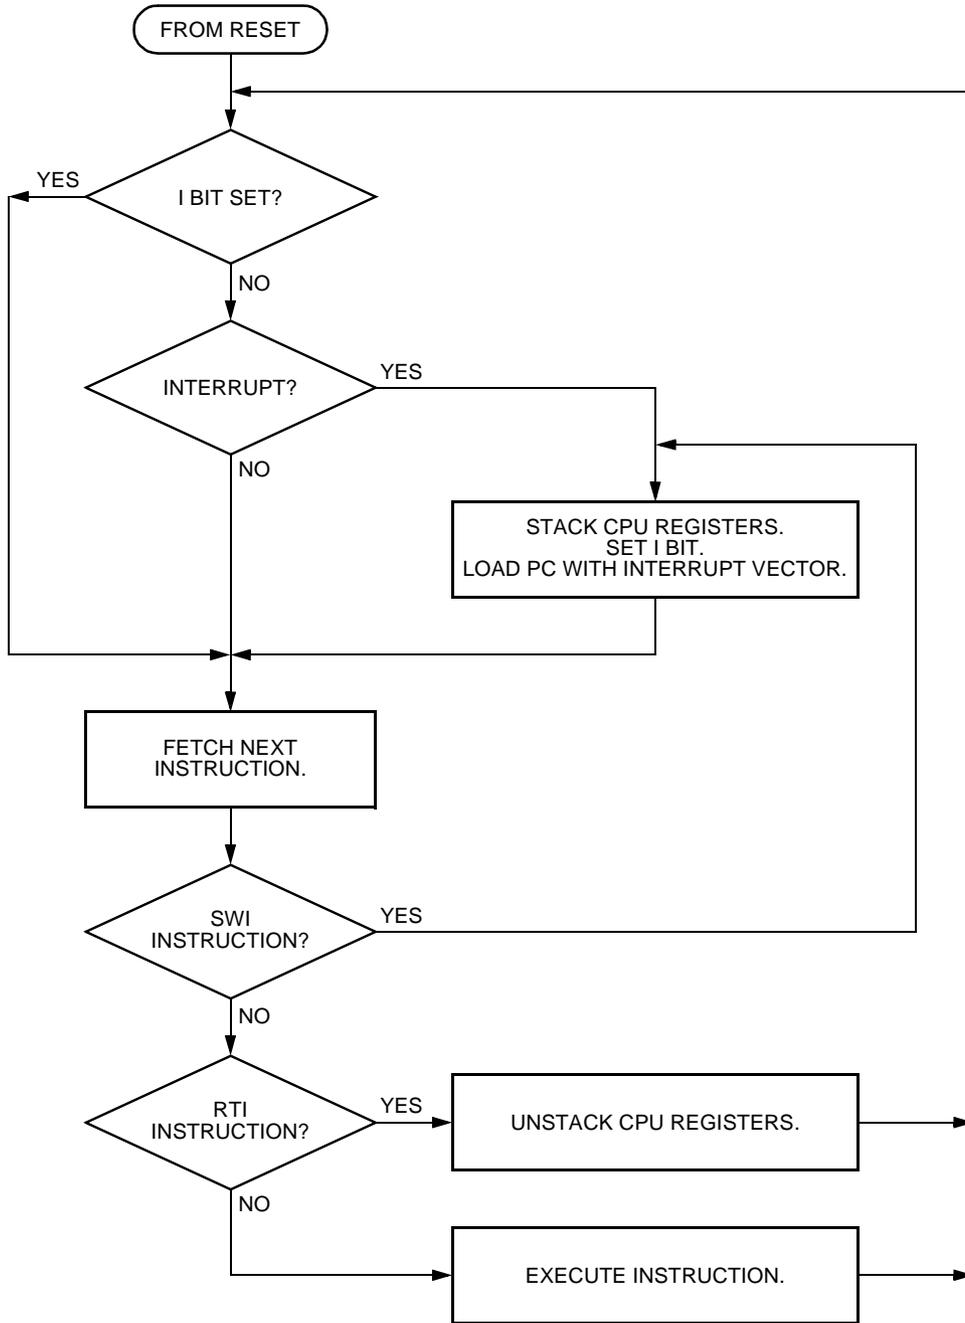

Figure 14-2. IRQ Interrupt Flowchart
NOTE: *The interrupt mask (I) in the condition code register (CCR) masks all interrupt requests, including external interrupt requests. See Figure 14-2.*